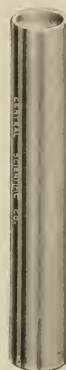

FIG. 6.—Twelve-inch tube with solid bottom, for use in determining volume-weight and pore space.
1. Take one of the special tubes which has the opening at the bottom plugged with a cork stopper and from which the brass strainer has been removed; or use a tube with solid bottom as in Fig. 6. (Schools not equipped with soil tubes may use tin cans.)
7. If the real specific gravity of these soils is known secure them from the instructor and then compute the porosity of each. See (3) below.